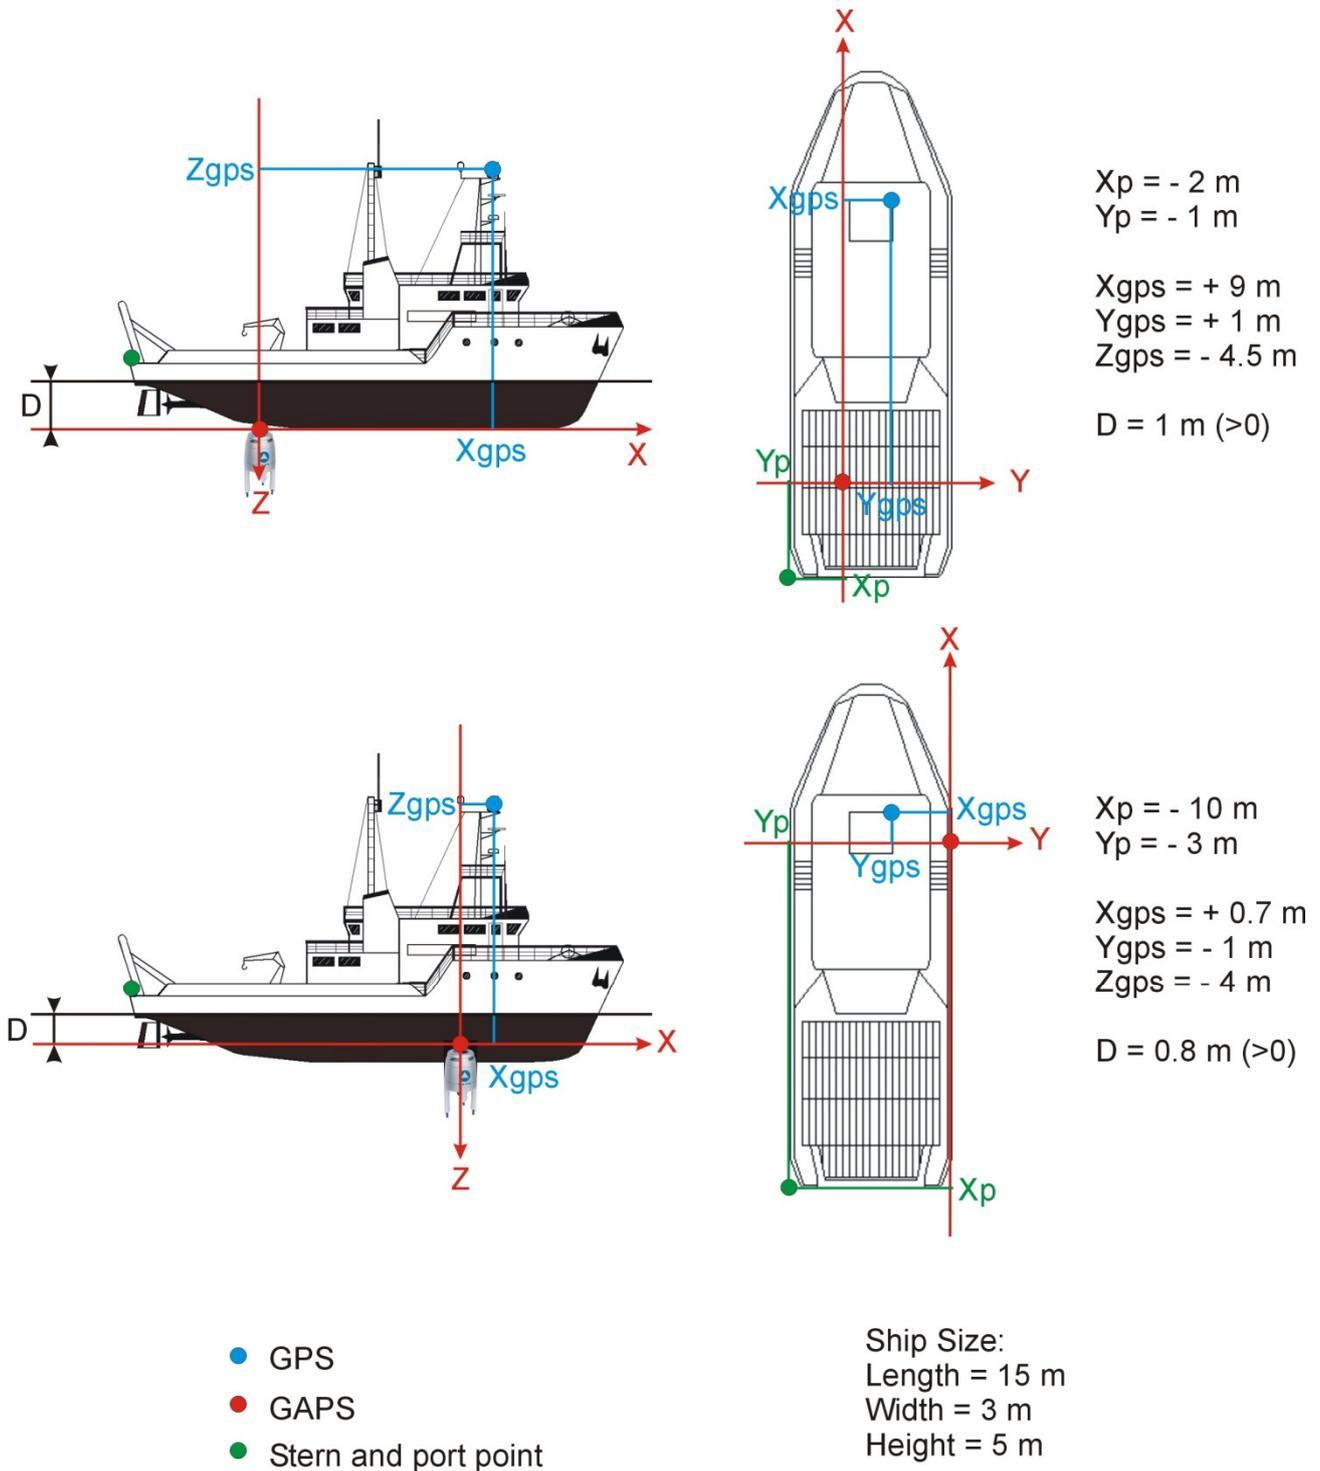

Figure 37 – Examples of Numerical values for the ship dimensions and the GPS offsets with respect to GAPS
- ❑ The lever arms of the GPS antenna with respect to GAPS: **Longitudinal (X)**, **Transverse (Y)**, **Vertical (Z)** values. These parameters affect directly the positioning. The further the GPS is from GAPS, the bigger the error in the lever arms will be. See Figure 37 for numerical examples.